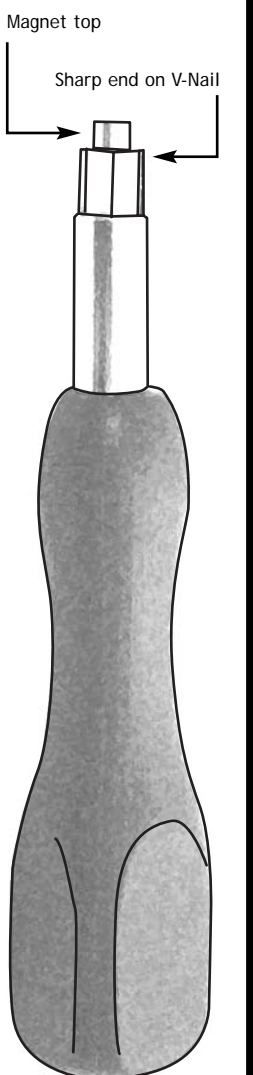
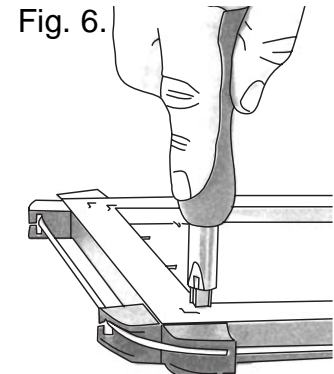

Fig. 5.
Fig. 6.
3. The V-Nail is positioned AROUND the magnetic tip of the Ezy-Framer. Make sure the V-Nail is sharp edge down. See Fig. 5. Align the V-Nail across the mitre, so that the sides of the V-Nail are parallel with the frame sides. This will also be with the grain in the timber. See Fig. 6 & 7.